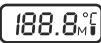

Fig.1
1. Press ON/OFF button that is next to the screen. You will hear sound signal; (Fig. 1) will be displayed, followed by the last measurement result. After the automatic test temperature result is displayed, the thermometer will be in measurement mode. Letter L with flashing °C or °F indicates readiness for measurement (Fig. 2/3).